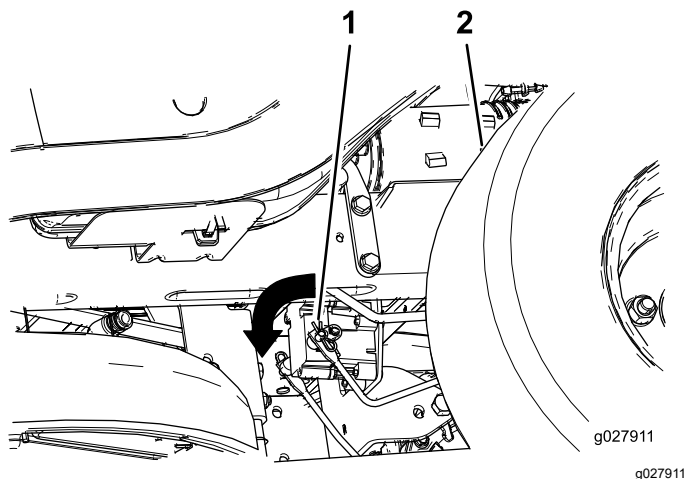

Figure 44
2. Locate the shaft on the electric brake where the brake link arms are connected (Figure 44).